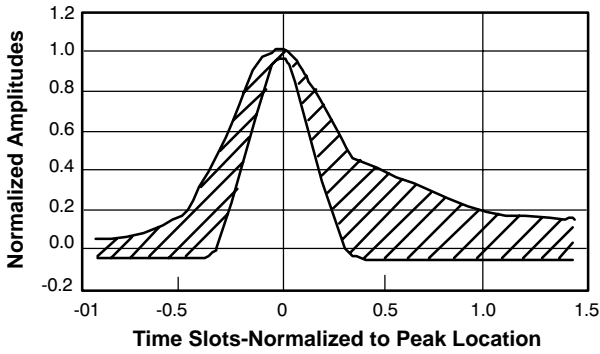
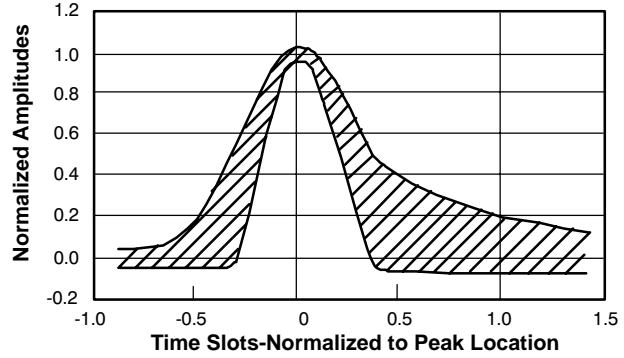

Figure 3. DSX-3 Isolated Pulse Template for ANSI T1.404 Standards
Figure 4. DSX-3 Isolated Pulse Template for Bellcore TR-NWT-000499
Currently, two isolated pulse template requirements exist: the ANSI T1.404 pulse template (*See Table 3 and Figure 3*) and the Bellcore TR-NWT-000499 pulse template. The pulse transmitted by the XRT7296 meets these templates.
| Pulse Shape | An isolated pulse must fit the template in Figure 3 or Figure 4 . ¹ The pulse amplitude may be scaled by a constant factor to fit the template. The pulse amplitude must be between 0.36Vpk and 0.85Vpk, measured at the center of the pulse. |
- ¹ The pulse template proposed by G.703 standards is shown in *Figure 4* and specified in *Table 4*. The proposed G.703 standards further state that the voltage in a time slot containing a 0 must not exceed \pm 5% of the peak pulse amplitude, except for the residue of preceding pulses.
Table 3. DSX-3 Pulse Template Boundaries for ANSI T1.404 Standards (See *Figure 3*.)
Table 4. DSX-3 Pulse Template Boundaries for Bellcore TR-NWT-000499 Standards (See *Figure 4*)